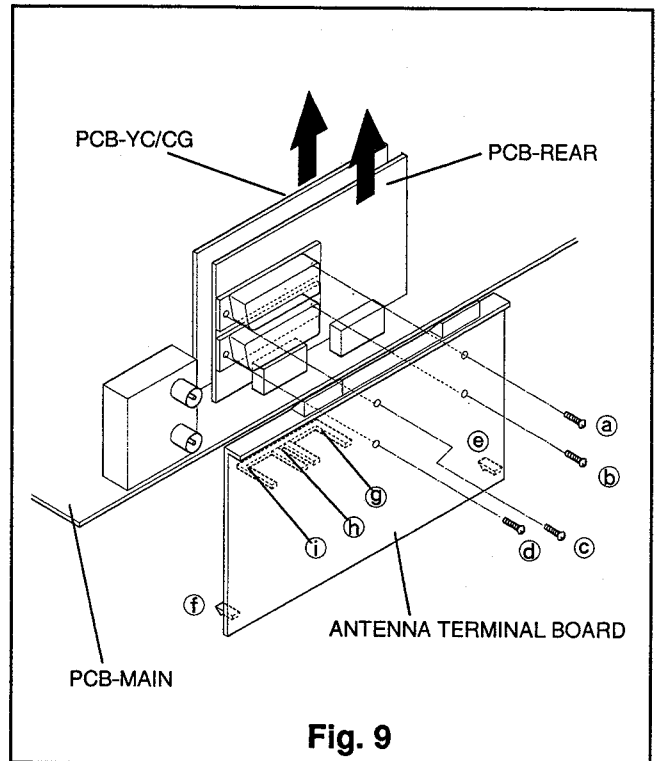

Fig. 9
- ① Remove the Top Cover referring to Para. 1 of the DISASSEMBLY.
- ② If it is necessary to remove the PCB-REAR, comply with the following steps.
- (1) Remove the PCB-MAIN referring to the preceding paragraph.
- (2) Remove four screws (a, b, c and d), unfasten five catches (e~i) on the Antenna Terminal Board as shown in Fig.9, and remove the Antenna Terminal Board.
- (3) Raise the PCB-REAR upward to remove it.
- ② Raise the PCB-YC/CG upward to remove it as shown in Fig.9.
- ① Remove the Top Cover referring to Para. 1 of the DISASSEMBLY. Servicing on the component side is possible.
- ② If it is necessary to remove the PCB-HIFI, comply with the following steps.